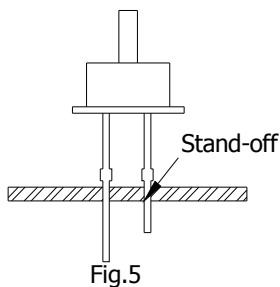
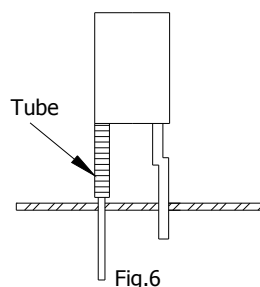

Fig.5
Fig.6
5) Use LEDs with stand-off (Fig.5) or the tube or spacer made of resin (Fig.6) to position the LEDs.